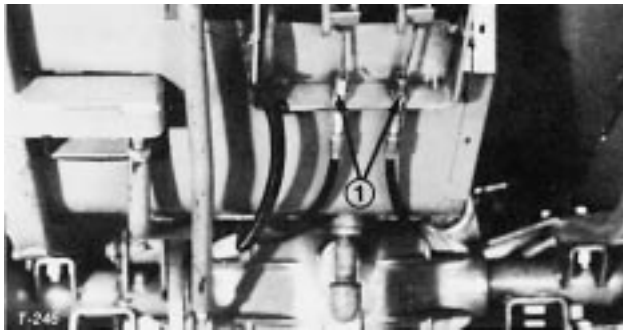

Figure 42
2. To reduce free travel of brake pedals — tighten the brakes — loosen front nut on threaded end of brake cable (Fig. 42). Then tighten rear nut to move cable backward until brake pedals have 1/2 to 1 inch (13 mm to 25 mm) of free travel. Tighten front nut after brakes are adjusted correctly.